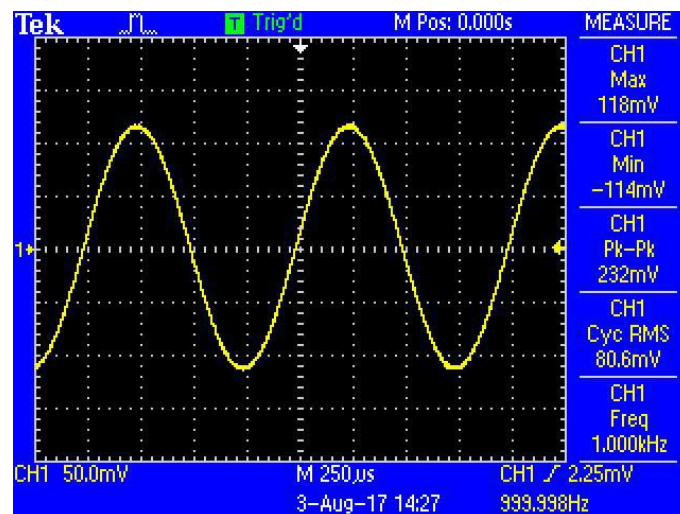

Fig.83 Parameters of Measured Signal
3. Turn on the function signal generator and set “Function: Sine”, “Amplitude: 80mVrms”, “Frequency: 1kHz”, “Output Impedance: High Z”, as is shown in Fig.83.